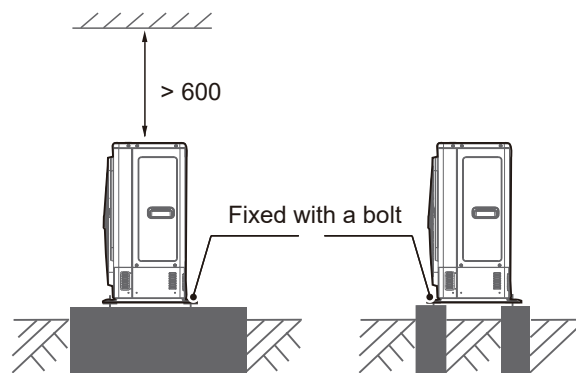

Fig.5-1
- Make concrete foundation according to the specifications of the outdoor units.(refer to Fig.5-1)
- Fasten the feet of this unit with bolts firmly to prevent it from collapsing in case of earthquake or strong wind. (refer to Fig.5-1)